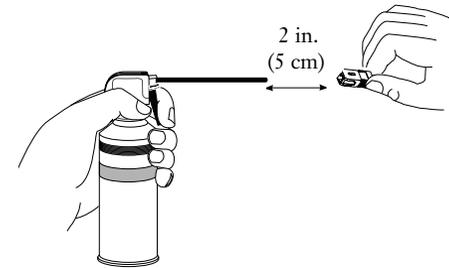

Figure 6-8
- Complete the cleaning by blowing the end face with filtered compressed air or an aerosol duster. *If you are using an aerosol duster, keep the nozzle at least two inches (5 cm) away from the connector* (Figure 6-8).